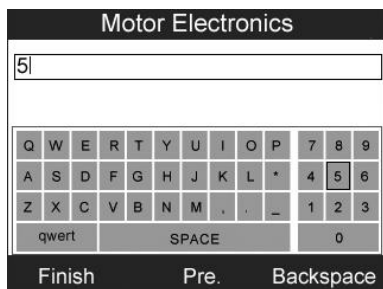

Figure 14.21
**[Show]**: Press this key to pop up a soft keyboard to facilitate your input. (Figure 14.21)